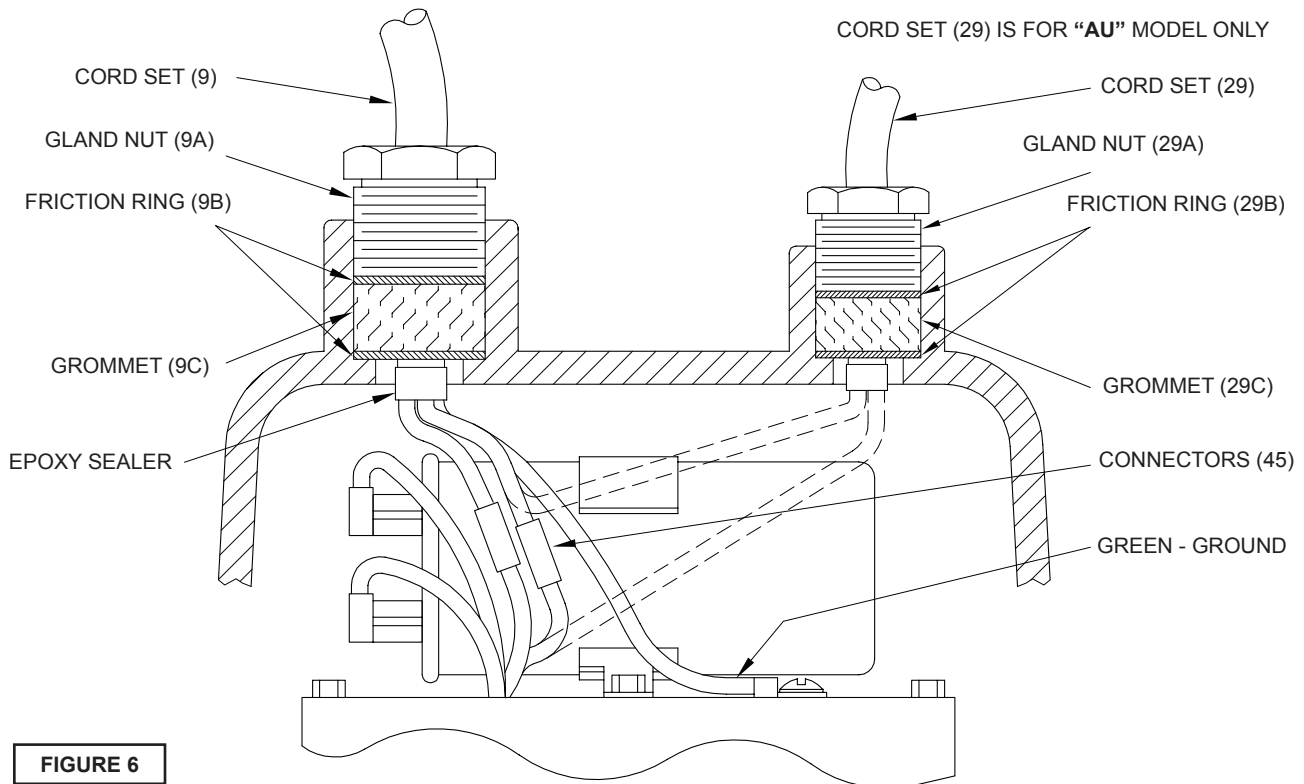
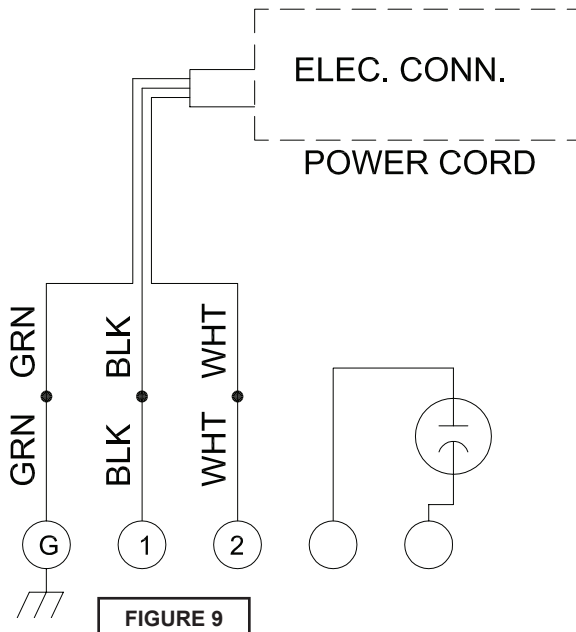

FIGURE 6
FIGURE 9
BP-HT & SE-HT Series, Motor - To examine or replace the motor (1) or bearing (4), remove body and impeller as per section F-2.1. Drain oil from motor housing as per section F-1.2. Remove socket head screws (15) and loosen gland nut (9a) and push cord through while lifting motor housing (14) off of seal plate (2). Disconnect motor wires from cord set (9). Pull cord through motor housing along with two friction rings and one grommet. (See Figure 6). Remove o-ring (13) and inspect for breaks. Loosen motor screws and pull motor (1) straight up and off seal plate (2). Inspect all parts for signs of wear and check motor resistance values.
On "HTAU" series pumps gland nut (29a), must also be loosened from motor housing (14). Push cord through while lifting motor housing (14) off of seal plate (2). Disconnect motor wires from cord set (29). Pull cord through motor housing along with friction rings (29b) and grommet (29c), see Figure 6.
On **BP-HT & SE-HT Series**, slide the gland nut, friction rings and grommet onto cord set (see Figure 6) and slip cord through motor housing (14). Connect motor wires per Figure 9. Place motor housing (14) squarely onto seal plate while pulling excess cord through hole. Tighten socket head screws (15) into motor housing. Slide the friction rings (9b), grommet (9c) and gland nut (9a) into motor housing and tighten gland nut to 17.5 ft. lbs. Refill with cooling oil as per paragraph F-1.3. On **“HTAU”** series pumps slide the gland nut, friction rings and grommet onto cord set (see Figure 6) and slip cord (29) through motor housing (14). Connect wires per Figure 10.